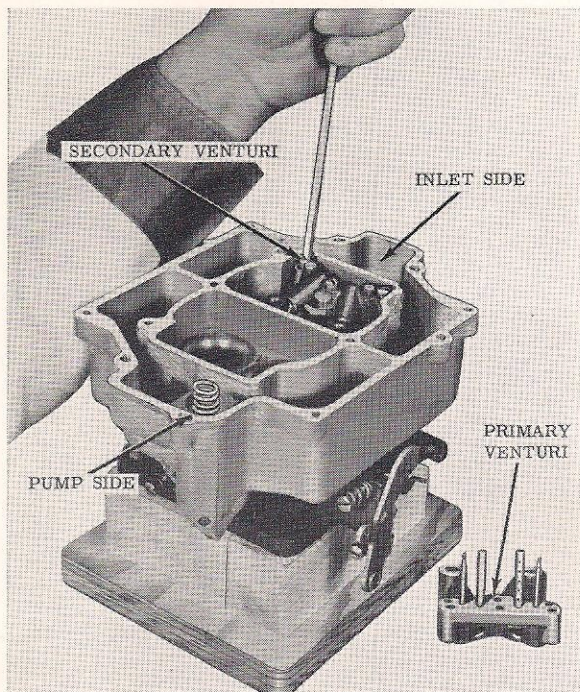

Figure 7-21
7. Install secondary venturi cluster on fuel inlet side of carburetor with three retaining screws and lock washers. (Figure 7-21.) This cluster has no pump discharge nozzles.